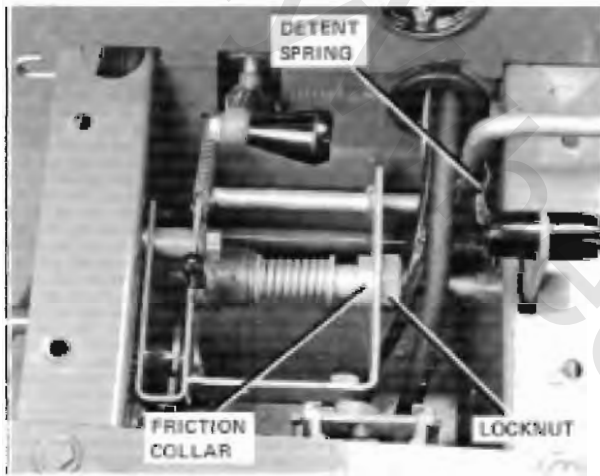

Fig. 5-11 C-Series Automatic, Motion Control Linkage
After neutral has been adjusted, check to see if the motion control lever is centered in the detent notch of the detent spring. The spring incorporates slotted bolt holes so it may be adjusted as required to line up the neutral notch with the control rod. See Fig. 5-11.
2. Release large locknut. See Fig. 5-11.